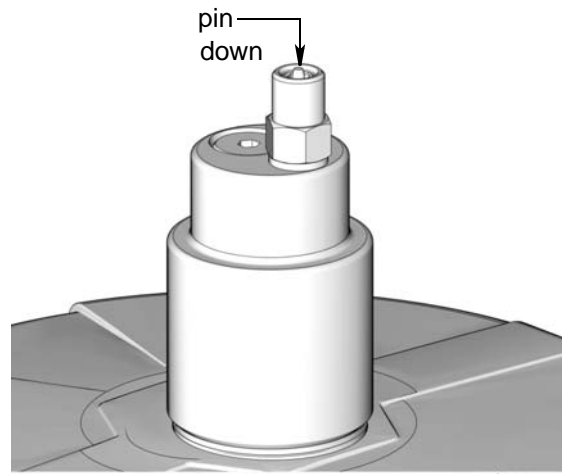

FIG. 20
1. Pull out and hold the Pressure Relief Knob (T) long enough to relieve line pressure between Fill Manifold (N) and Auto-Fill Shut Off Valve (B).
2. Verify the Auto-Fill Shut Off (B) pin is down, indicating it is reset (FIG. 20).